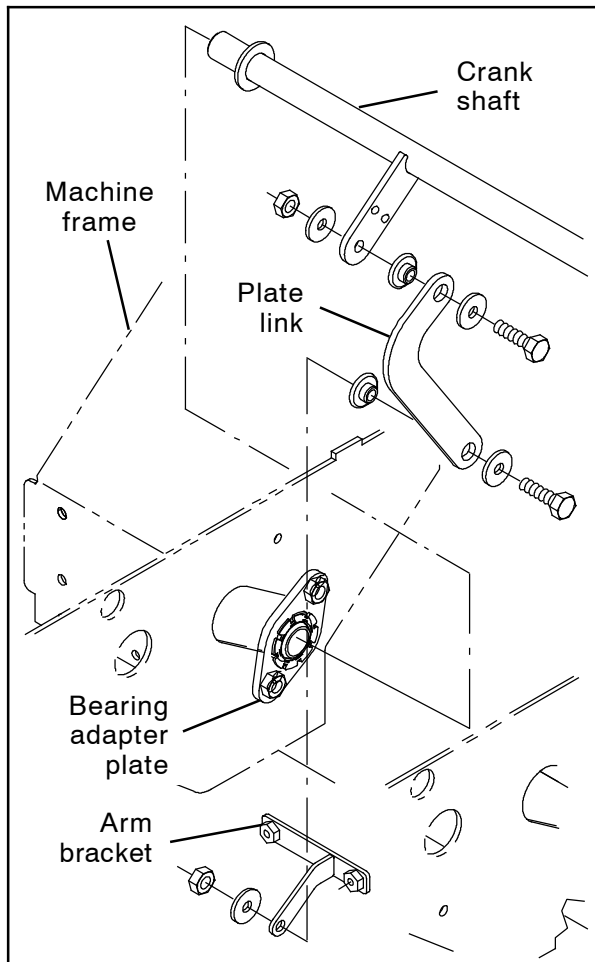

FIG. 12
14. Remove the hardware securing the arm bracket to the plate link. Discard the hardware. (Fig. 12)
15. Remove the plate link from the crank shaft. Discard the plate link and all hardware used to the plate link to the crank shaft. (Fig. 12)
16. Pull the crank shaft out from the machine. Discard the crank shaft assembly and all parts remaining installed on the crank shaft. (Fig. 12)